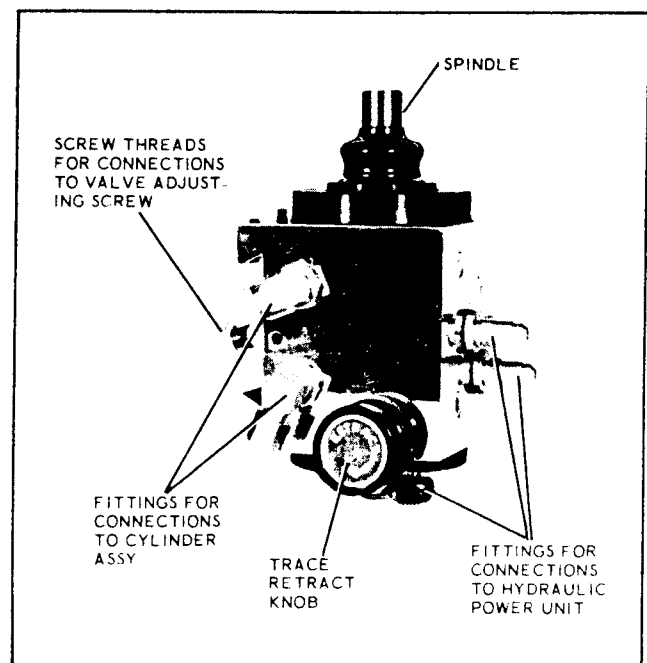

Figure 1-3. Tracer Valve, Model Group 1068.
c. The tracer valve (fig. 1-3) dovetails onto the valve adjusting slide and is secured to the slide by a valve adjusting screw. The valve adjusting screw is manually controlled by a knob which is graduated in thousandths of an inch. The tracer valve is operated with the stylus pointing up. The tracer valve is a precision hydraulic valve carefully flow balanced to control the tracing operation. In operation, the tracer valve is guided by a contour template or